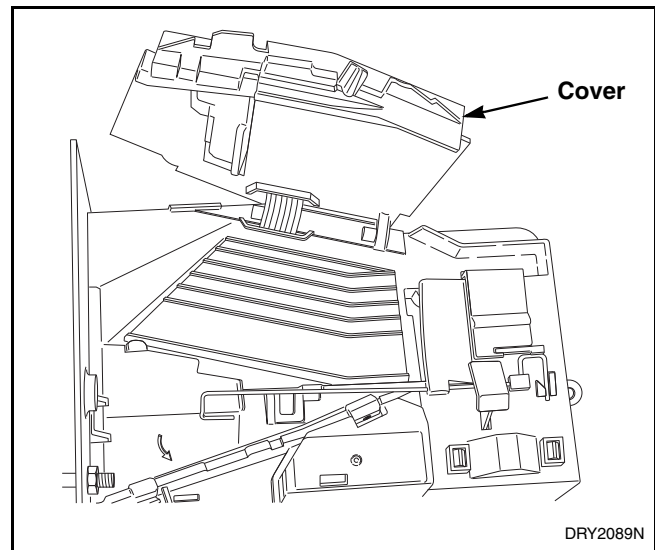

Figure 24
- (2) Open cover for coin drop. Refer to *Figure 24*.